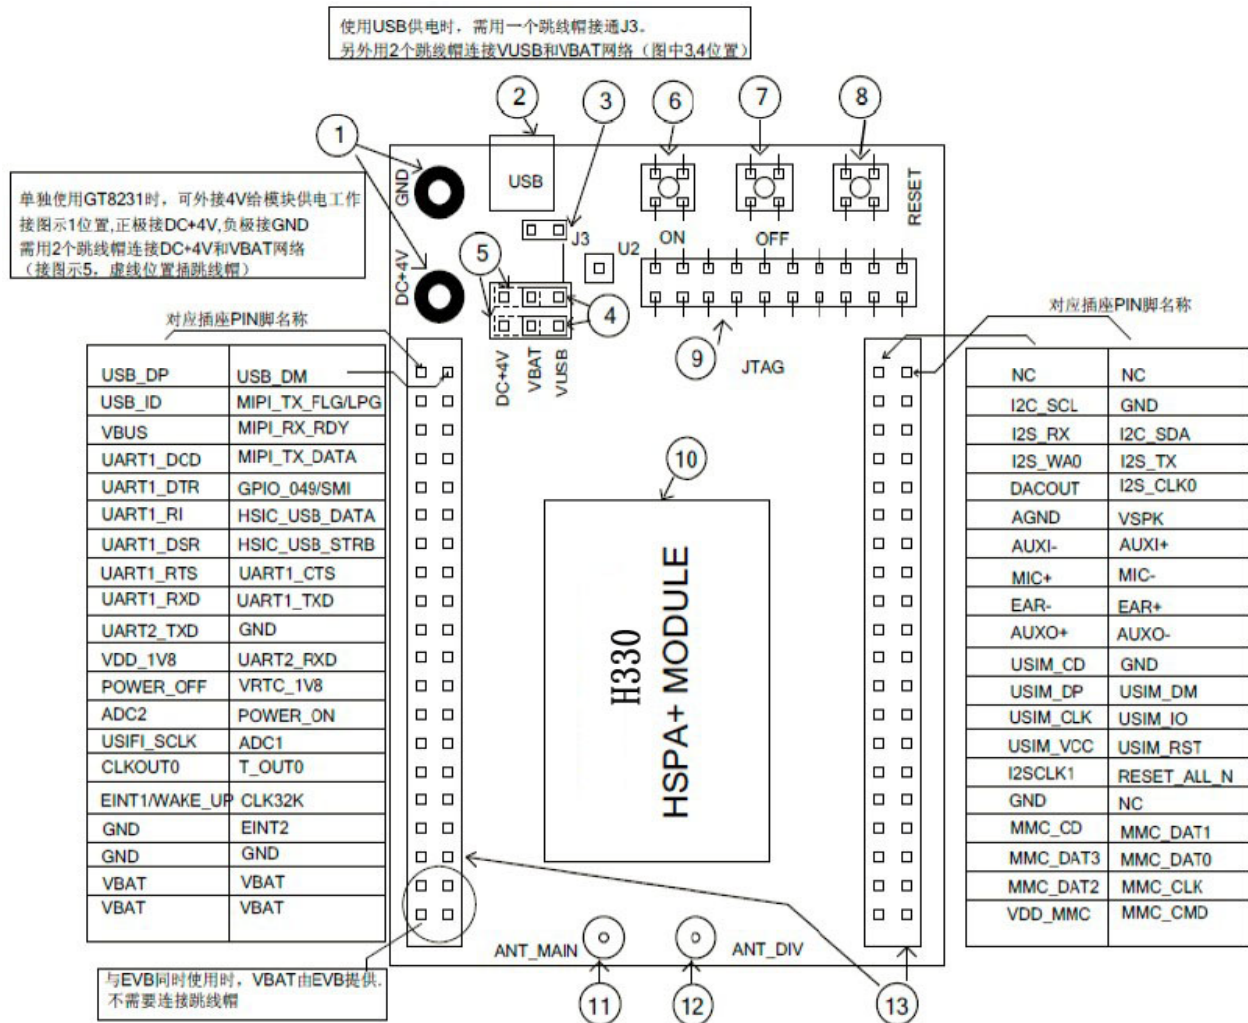

Figure 3-3 ADP-H330
Use external DC+4V power first, jumpers connect to ⑤ pin (as shown in Figure3-3), press Power ON.